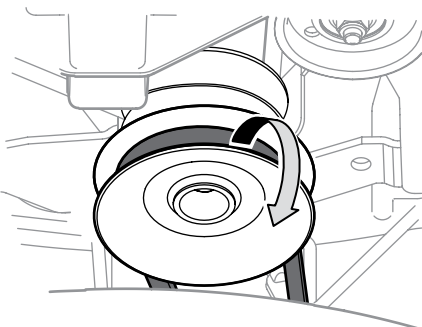

Figure 4-5
4. Remove the belt from around the tractor's PTO pulley. See Figure 4-5.
in Figure 4-5. Simply roll one side of the belt OFF of the pulley and then work it OFF the pulley by continuing around the pulley until the belt is OFF of the pulley.
- Feed the deck belt through the belt keeper rod and work it around and onto the PTO drive pulley as shown in Figure 4-5.